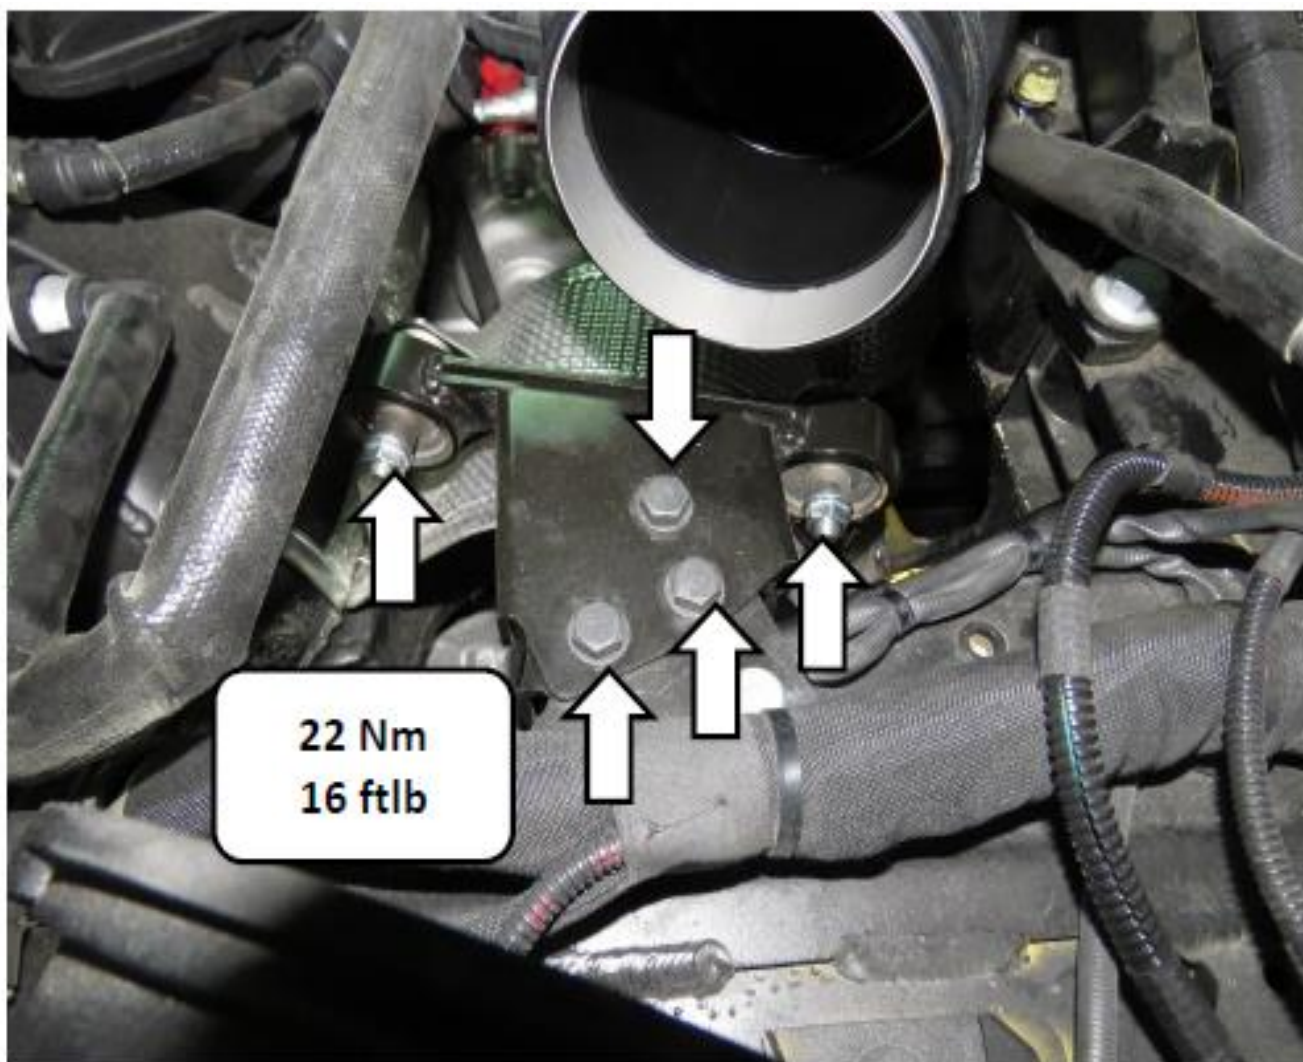

figure 17
1. Mount the iPE catalyst lugs and barrels on both sides to the positioning (Figure 17)